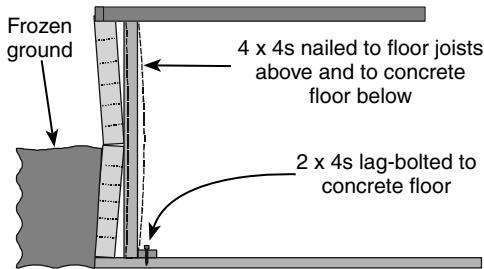

Figure 4-9
1. My first concern was to stop the wall from caving in. I stood treated 4 x 4s along the wall, spaced every 16 inches, so I could nail the tops to the floor joists above. This step (and the one directly below) is illustrated in Figure 4-9.